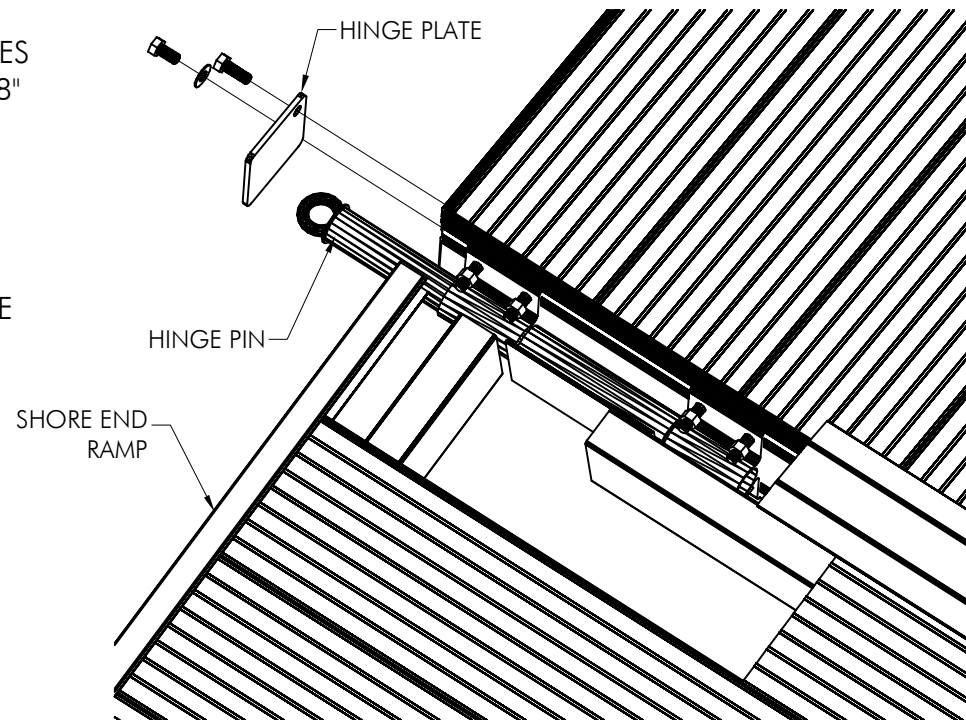

FIG. 3
- POSITION SHORE END RAMP HINGES BETWEEN 3" HINGES AND INSERT HINGE PINS THROUGH HINGES. INSERT 3/8" FLATWASHER AND 3/8" NYLOCK NUT INTO UPPER NUT TRACK AND 3/8" FLATWASHER AND 3/8" NUT INTO LOWER NUT TRACK. PUT (1) 3/8 x 1" BOLT THRU HINGE PLATE AND INTO NYLOCK IN UPPER NUT TRACK. PUT (1) 3/8 x 3/4" BOLT W/ (1) 3/8" FLATWASHER INTO HEX NUT IN LOWER NUT TRACK. POSITION HINGE PLATE OVER HINGE PIN AND TIGHTEN BOLTS IN HINGE PLATE. SEE FIG. 3